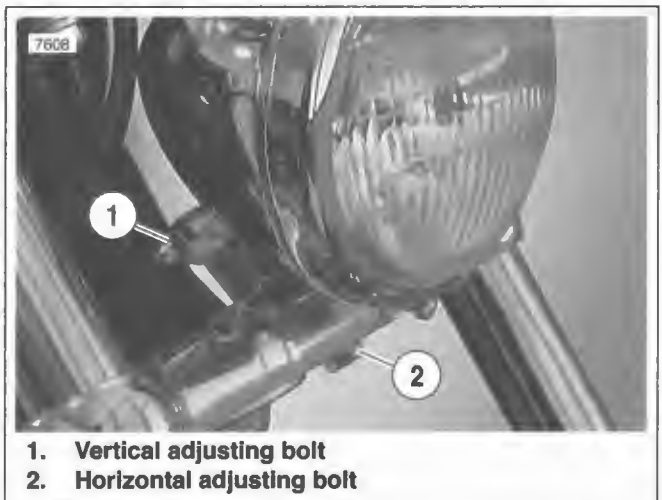

Figure 1-61. Headlamp Adjustment: FXSTD
1. See Figure 1-61. Loosen horizontal adjusting bolt (2) to adjust headlamp beam side to side.
3. Loosen vertical adjusting bolt (1) to adjust headlamp up or down.